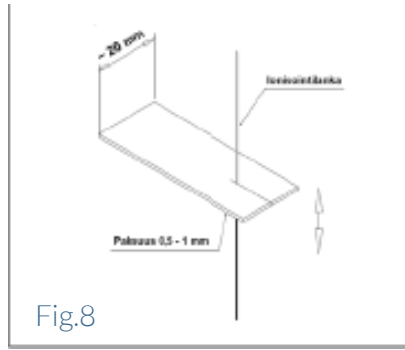

Fig. 8
7. After the wash, clean the ionization wires carefully with a scouring pad or with a thin plastic strip with a slit cut into it (Figure 8). Dirty ionization wires cause fizzing and crackling sounds and affect the performance of the air purifier.